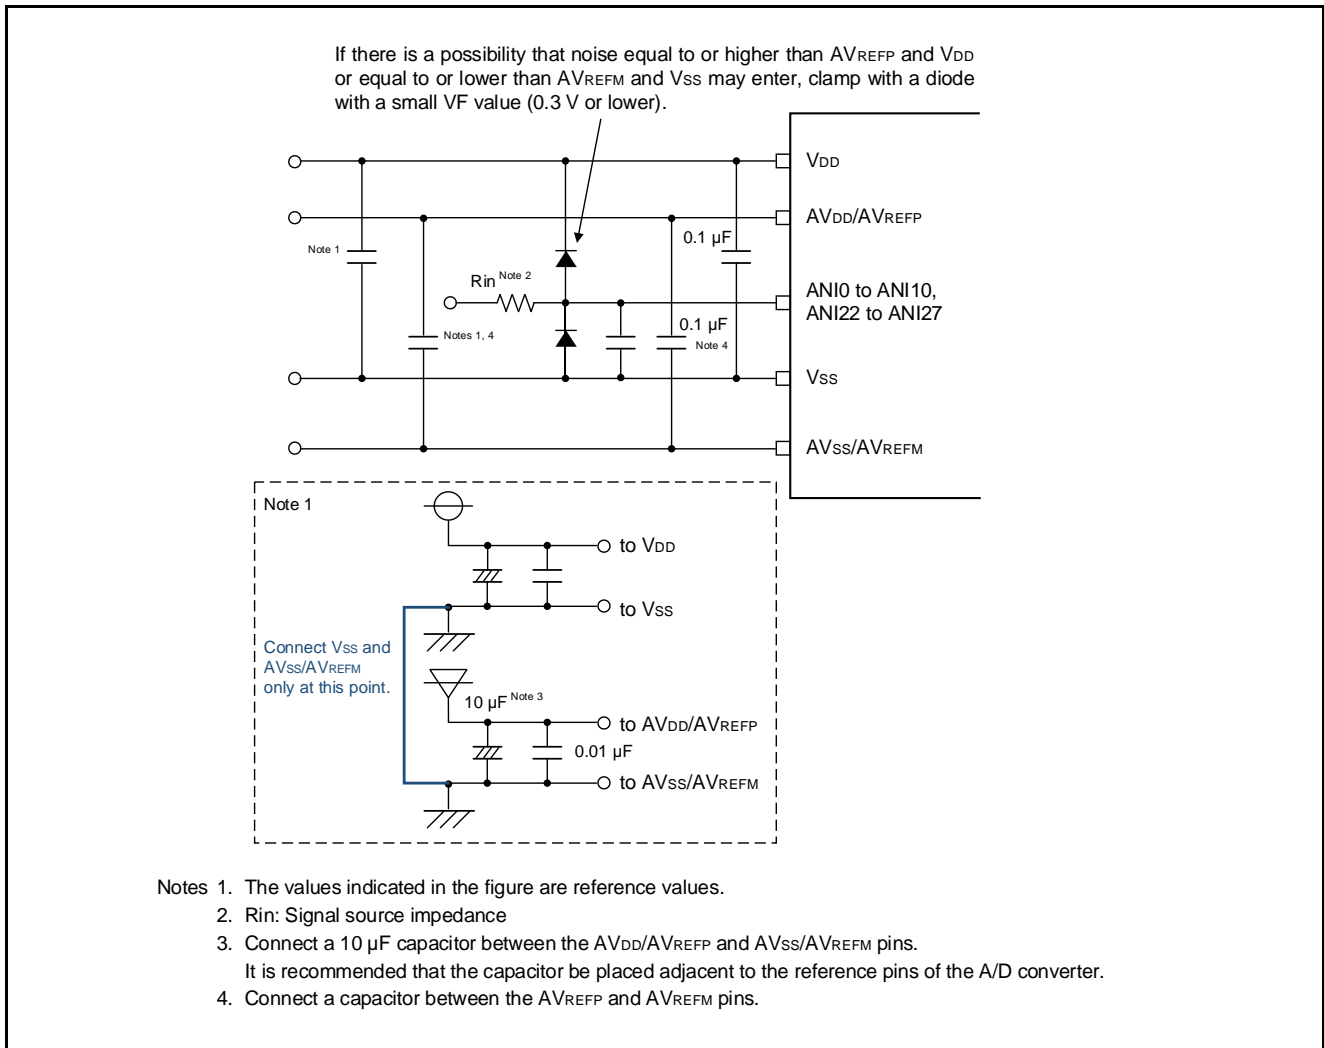

Figure 12: Sample Protection Circuit for Analog Inputs
- To prevent the analog input pins (ANI0 to ANI10, ANI22 to ANI27) from being destroyed by abnormal voltage such as excessive surge, a capacitor should be inserted between  $V_{DD}$  and  $V_{SS}$  and between  $AV_{DD}/AV_{REFP}$  and  $AV_{SS}/AV_{REFM}$ , and a protection circuit should be connected to protect the analog input pins (ANI0 to ANI10, ANI22 to ANI27) as shown in Figure 12